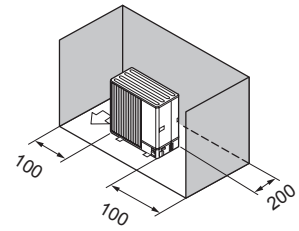

Fig. 4-26
- ③ Obstacles at rear and sides only (Fig. 4-26)